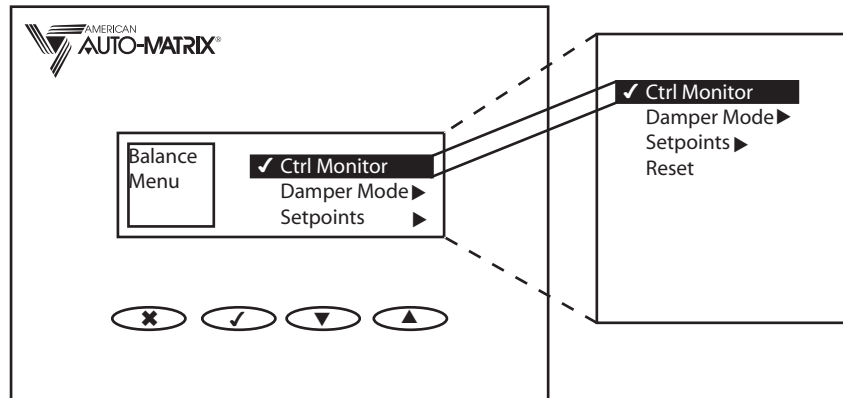

Figure 5-9: Balance Menu
To access the Balance Menu, press the 6 and the 4 buttons simultaneously. Enter your four digit password using the up and down arrow buttons to scroll through the numbers and Select (4) to move each place to the right. Once you have selected the correct password press 4 one more time to enter the Balance Menu screen (as shown in Figure 5-9).